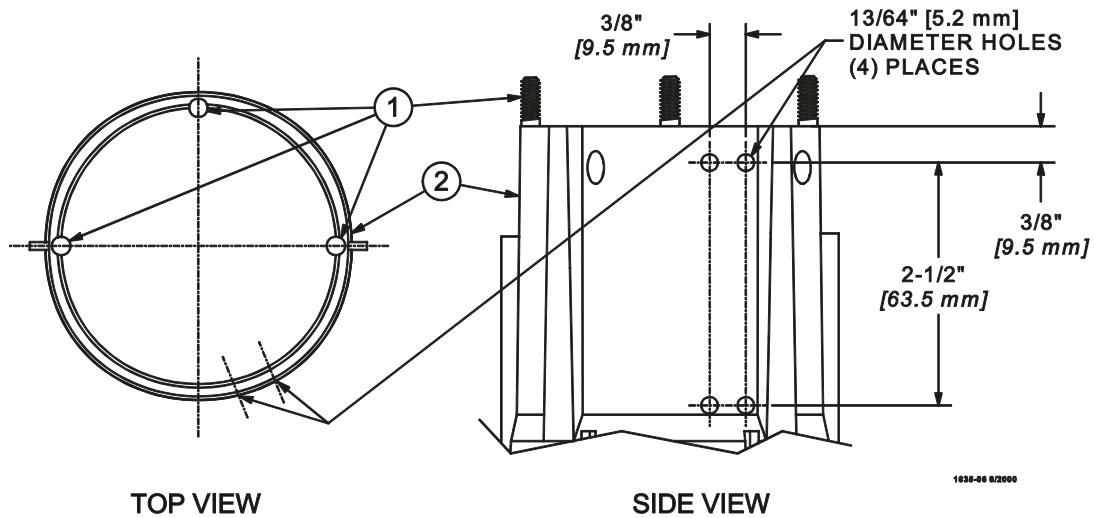

Figure 5. Marking and drilling the Support Cone
10. Find the Support Cone (item 2) with the three Threaded Studs (item 1) on top. Referring to **Figure 5**, on a side between two studs, mark and drill four 13/64" [5.2 mm] diameter holes in the side of the Support Cone